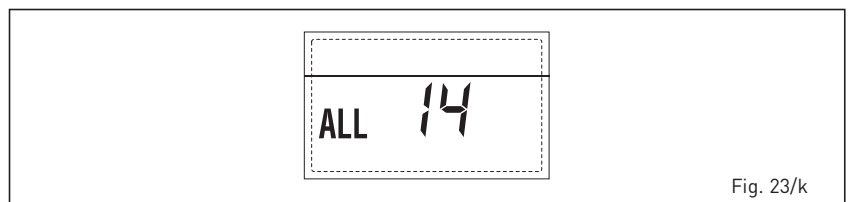

Fig. 23/k
- FAN ERROR "ALL 15" (fig. 23/m)